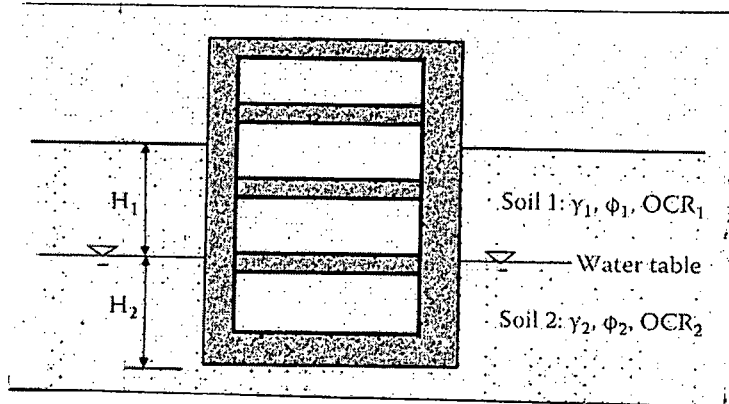

Fig: 2
8. Compute the lateral earth pressure against the basement wall as shown in Figure 2. The dimensions and parameters are as follows: (23 1/3)